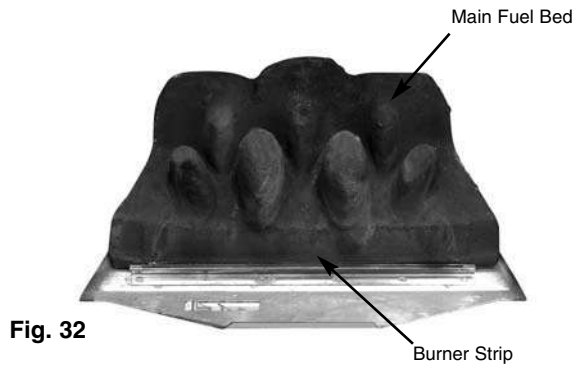

Fig. 32
1. Place the main fuel bed on to the middle section of the metal burner tray. It is important that the front edge of the fuel bed is located behind the burner strip (Fig. 32).